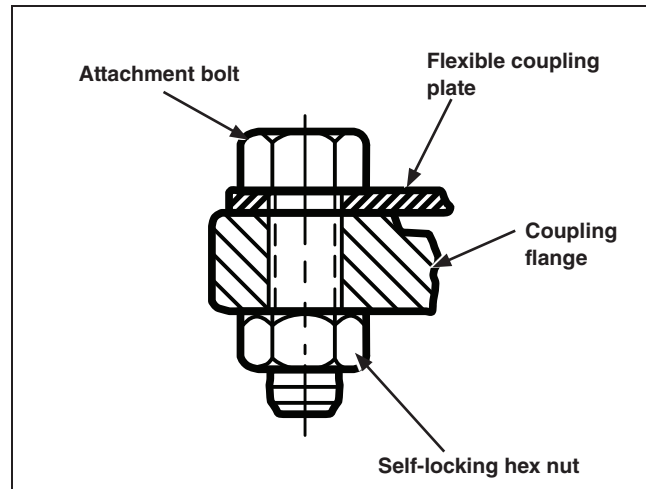
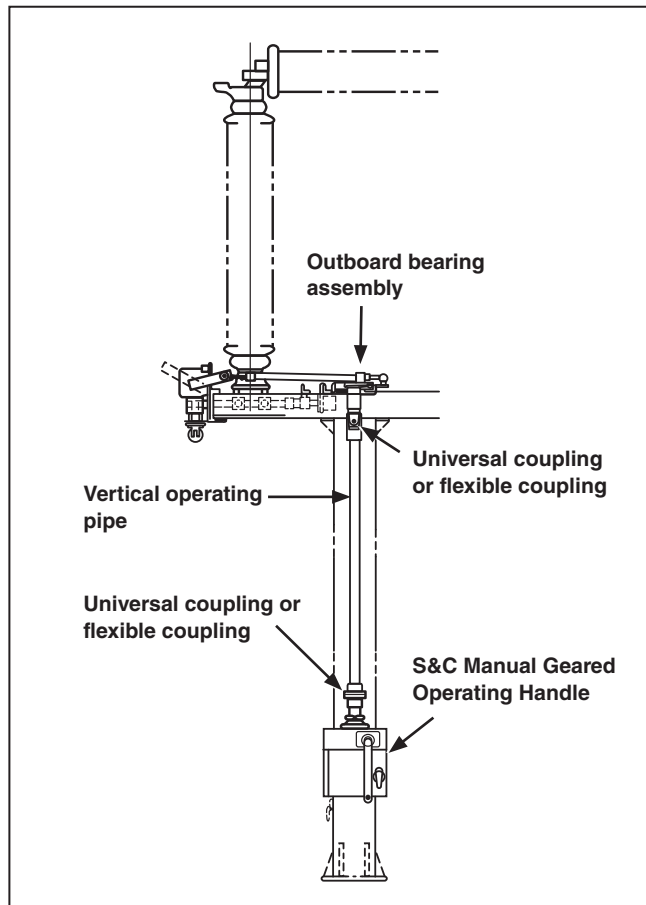

Figure 4. Attachment bolt detail.
Figure 5. Vertical operating pipe and S&C Manual Geared Operating Handle.
**STEP 2.** Mount the S&C Manual Geared Operating Handle to the mounting structure in the position shown on the erection drawing using the supplied  $\frac{5}{8}$ -inch galvanized hardware. Mounting angles are provided on the rear of the enclosure. See Figure 4 and Figure 5. Refer to the detailed instructions in S&C Instruction Sheet 719-530 for installing and adjusting the S&C Manual Geared Operating Handle.
**STEP 1.** Remove or loosen the universal or flexible coupling clamp bolts on the coupling below the outboard bearing assembly (or gearbox). See Figure 4.
**STEP 2.** Install the vertical-operating-pipe section (or sections) and, if required, the guide bearing assembly (or assemblies) between the universal coupling at the outboard bearing assembly (or gearbox) and the universal coupling or flexible coupling at the manual geared operating handle. See Figure 5. Work from the universal coupling on the outboard bearing assembly (or gearbox) downward to the universal or flexible coupling on the manual geared operating handle.